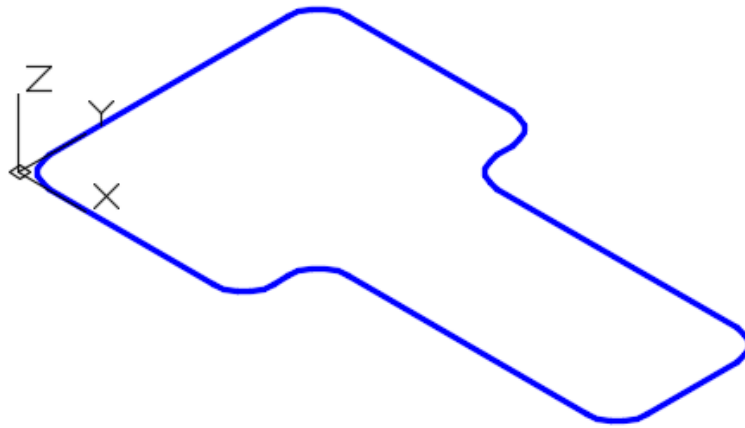

Figure Step 6
Step 6 Using what you learned in the first workalong, fillet all of the corners, in one step, with a radius of 10. (Figure Step 6)